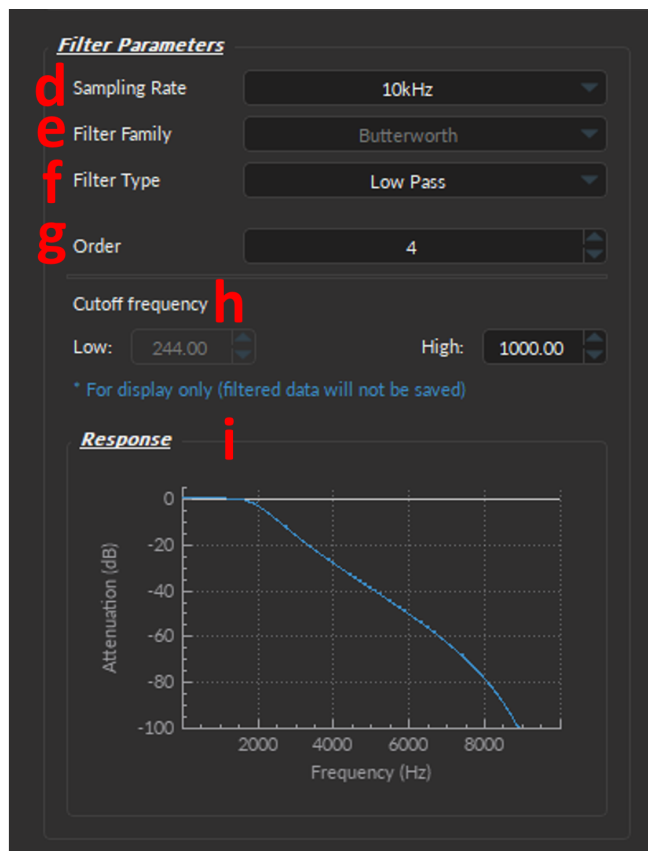

Figure 11.73: Filters, Filter Parameters
- d) The **Sampling Rate** (Fig. 11.73, d) specifies the number of data points per second that are saved in the .doric file. The **Sampling Rate** can range between 10 Hz - 50 kHz. Reducing the **sampling rate** here reduces the file size and is equivalent to decimating the data as it does not affect the true acquisition sampling rate. Only the filtered (and not the raw **Analog In**) channel is decimated.
- e) The **Filter Family** (Fig. 11.73, e) always corresponds to the *Butterworth* filters, which are ideal signal processing filters since they are designed to have a flat frequency response in the bandpass.
- f) The **Filter Type** drop-down (Fig. 11.73, f) offers four filter choices, including **High-Pass**, **Low-Pass**, **Band-Pass**, and **Band-Stop** filters.
- g) The **Order** (Fig. 11.73, g) specifies the number of cascaded stages within the *Butterworth* filter, such that the higher the order number, the closer the filter is to the ideal *brick wall* response.
- h) The **Cut-off Frequency** (Fig. 11.73, h) defines the low/high cutoff values for the filter, depending on the type used. The **Cutoff Frequency** must be less than half of the **Sampling Rate**. Note: the true cutoff value is, by definition, always 3 dB below (Low Cutoff) or above (High Cutoff) the specified value.
- i) The **Response Graph** (Fig. 11.73, i) displays the Frequency (Hz) vs Attenuation (dB) trace of the filter according to both the filter type and the cutoff values.